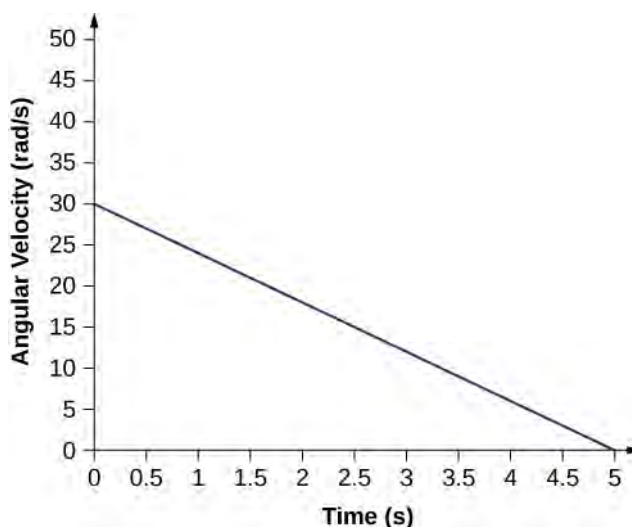

Figure 10.12 A graph of the angular velocity of a propeller versus time.
Figure 10.12 shows a graph of the angular velocity of a propeller on an aircraft as a function of time. Its angular velocity starts at 30 rad/s and drops linearly to 0 rad/s over the course of 5 seconds. (a) Find the angular acceleration of the object and verify the result using the kinematic equations. (b) Find the angle through which the propeller rotates during these 5 seconds and verify your result using the kinematic equations.
- Since the angular velocity varies linearly with time, we know that the angular acceleration is constant and does not depend on the time variable. The angular acceleration is the slope of the angular velocity vs. time graph, $\alpha = \frac{d\omega}{dt}$. To calculate the slope, we read directly from **Figure 10.12**, and see that $\omega_0 = 30 \text{ rad/s}$ at $t = 0 \text{ s}$ and $\omega_f = 0 \text{ rad/s}$ at $t = 5 \text{ s}$. Then, we can verify the result using $\omega = \omega_0 + \alpha t$.